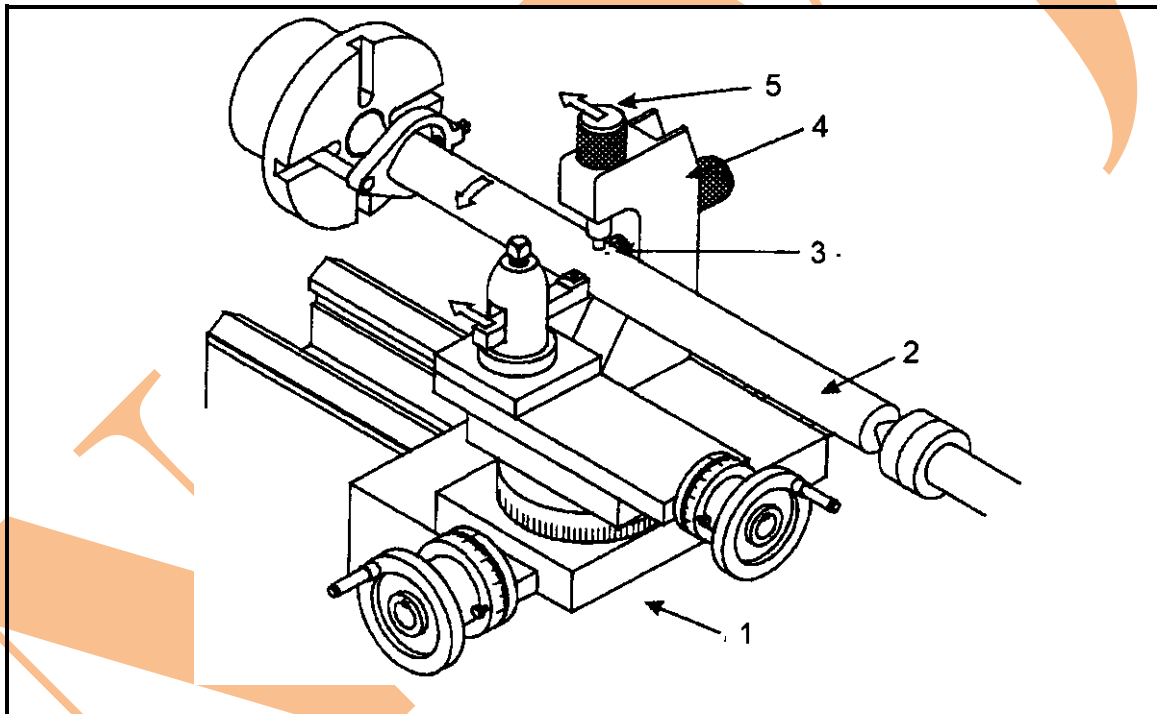

FIGURE 3
2.5 FIGURE 3 below, shows a work piece mounted on a centre lathe with a steady.